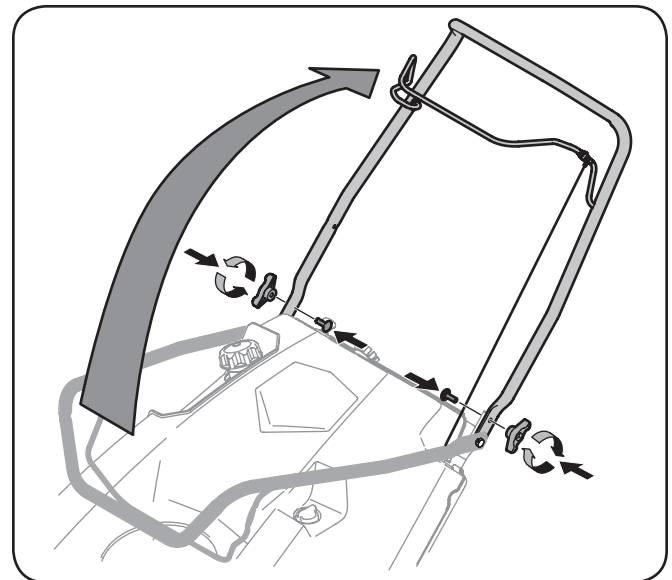

Figure 3-2
2. Pivot the upper handle into the operating position. Be sure not to pinch any of the cables in the process. Re-install the carriage screws and wing knobs removed in step 1. See Figure 3-2.